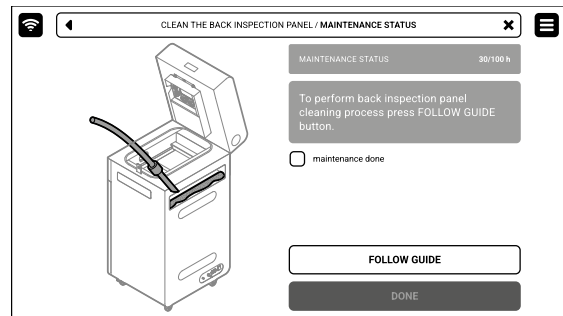

Fig. 13.88 The back inspection panel maintenance screen.
4. If the panel is installed, you can use the step-by-step guide (press **FOLLOW GUIDE**) or perform the required cleaning yourself. In this case, mark **MAINTENANCE DONE** once you have completed the procedure, and then the **DONE** button. The timer will reset to zero (fig. 13.88).